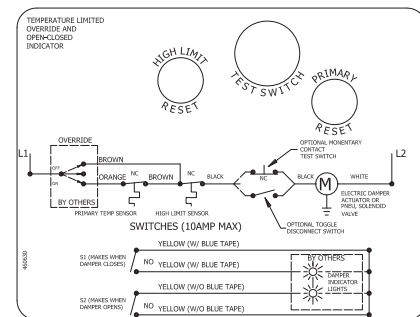

Figure 26: TOR
**TOR** - The TOR (temperature override device) option incorporates two thermostats with fixed settings (usually 165°F [74°C] and 350°F [177°C]). The primary sensor (the sensor with the lower temperature setting) can be bypassed by an external contact closure allowing the damper to reopen until the secondary temperature is reached (the sensor with the higher temperature setting). See **Figure 26**.
The TOR assembly contains two single pole single throw switches used to indicate damper blade position. The switches provide a positive open and closed signal and can be used in conjunction with remote indicator lights. See **Figure 26** for wiring of the TOR thermostats and indicator switches.